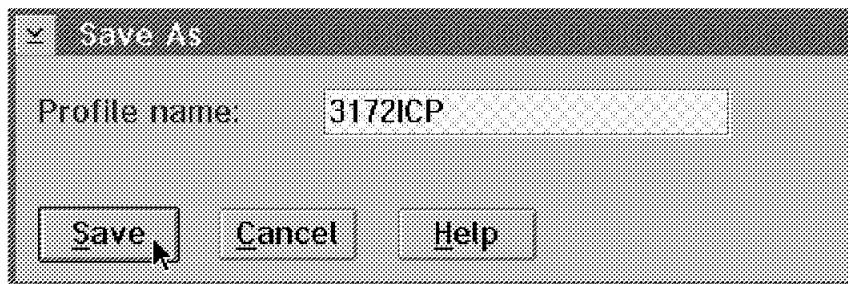

Figure 29. Selecting a Profile Name
Step 11. Select **Profiles** from the action bar and **Exit** from the pull-down menu to exit. Another panel appears where you confirm that you want to save the current profile data. Finally, the panel shown in Figure 29 appears.